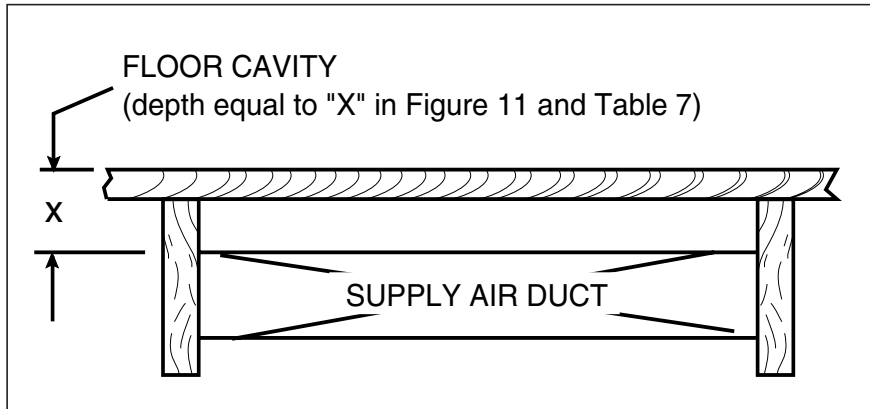

Figure 9.
- Determine depth of floor cavity from surface of floor to top of supply air duct (See Figure 9).